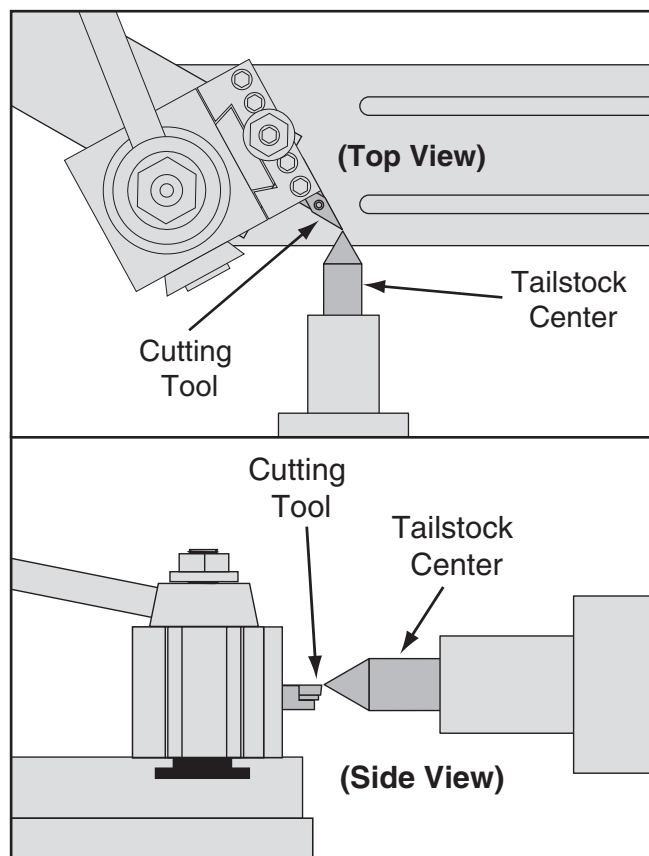

Figure 62. Cutting tool aligned to the tailstock center.
4. Adjust height of cutting tool tip to meet center tip, as shown in **Figure 62**.